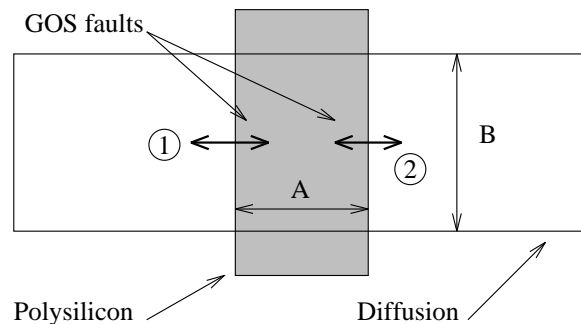

Figure 4.15: Calculation of Critical Area for GOS faults
Carafe calculates the relative likeliness of a GOS fault by taking the area of a transistor's active region and dividing it up by the number of diffusion regions, i.e. source and drain. Figure 4.15 shows how the critical area for a GOS fault is calculated. Both faults 1 and 2 are calculated by taking the area of the transistor (AB) and dividing it by the number of diffusion regions (2). To weigh the relative occurrence of GOS faults, use the polysilicon to ndiffusion or polysilicon to pdiffusion defect densities in the fabrication file.